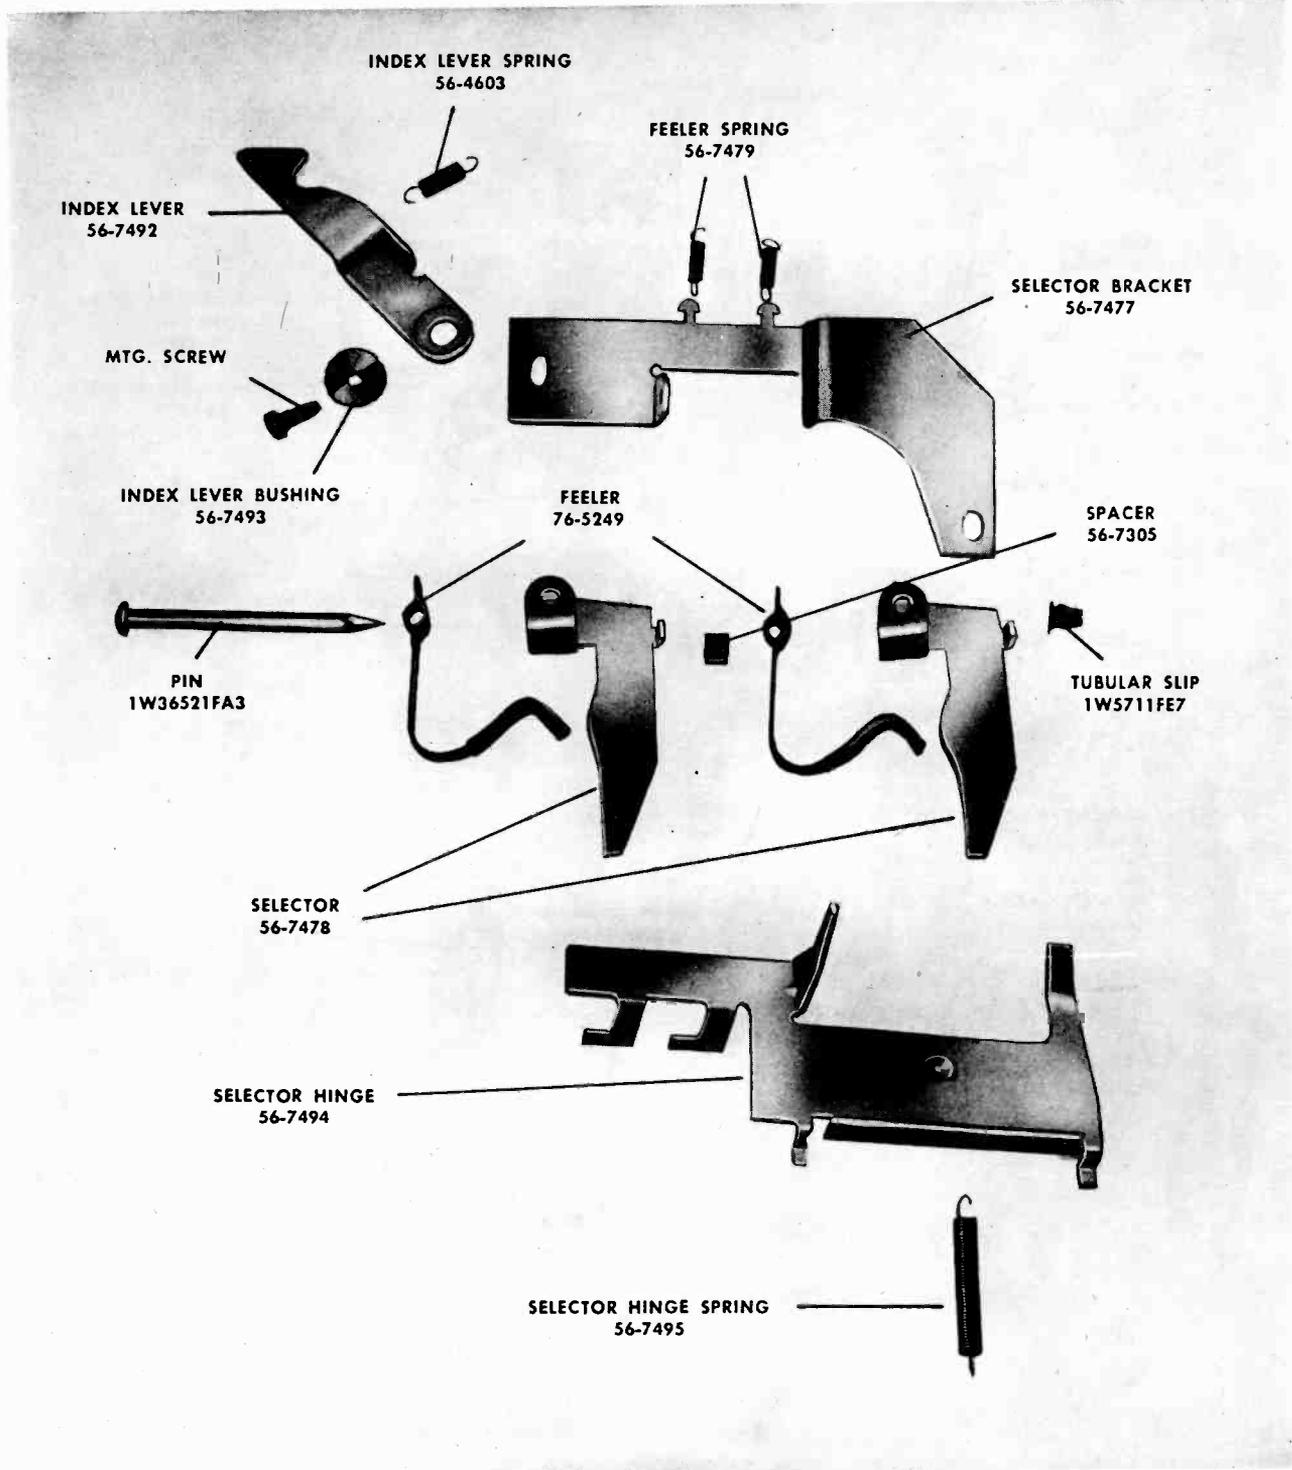

FIGURE 19. SELECTOR ASSEMBLY
- Lift out entire assembly. Figure 19 shows selector assembly.